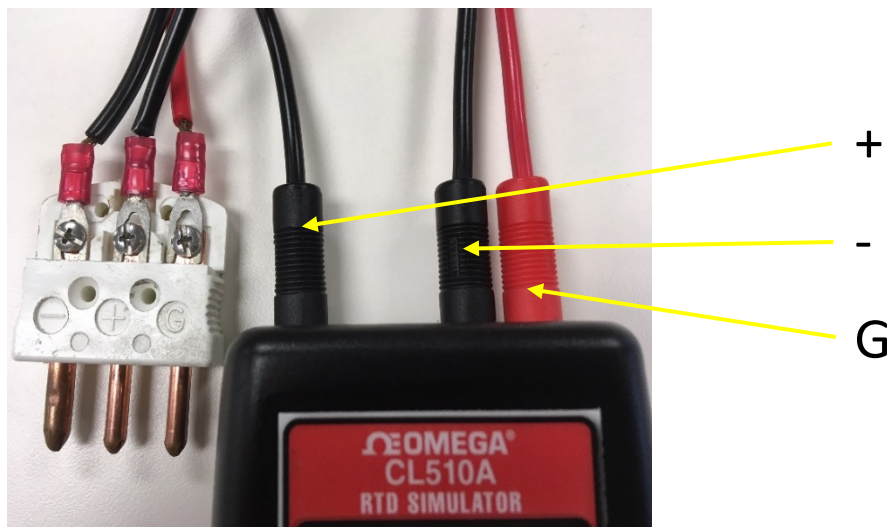

Figure 2
4. Make sure connector probes are in correct positions on the simulator. See figure 2